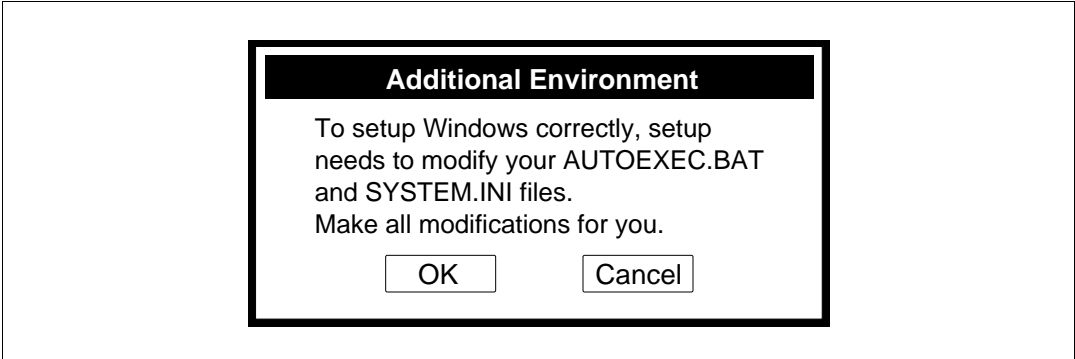

Figure 2-6 Addition Confirmation Dialog Box (INSTALL)
- (9) When the E7000PC system files have been copied, a dialog box is displayed to confirm whether the user wants to add to the AUTOEXEC.BAT the path name of the directory in which the GUI-SH has been installed and whether the user wants to modify the SYSTEM.INI, as shown in figure 2-6.